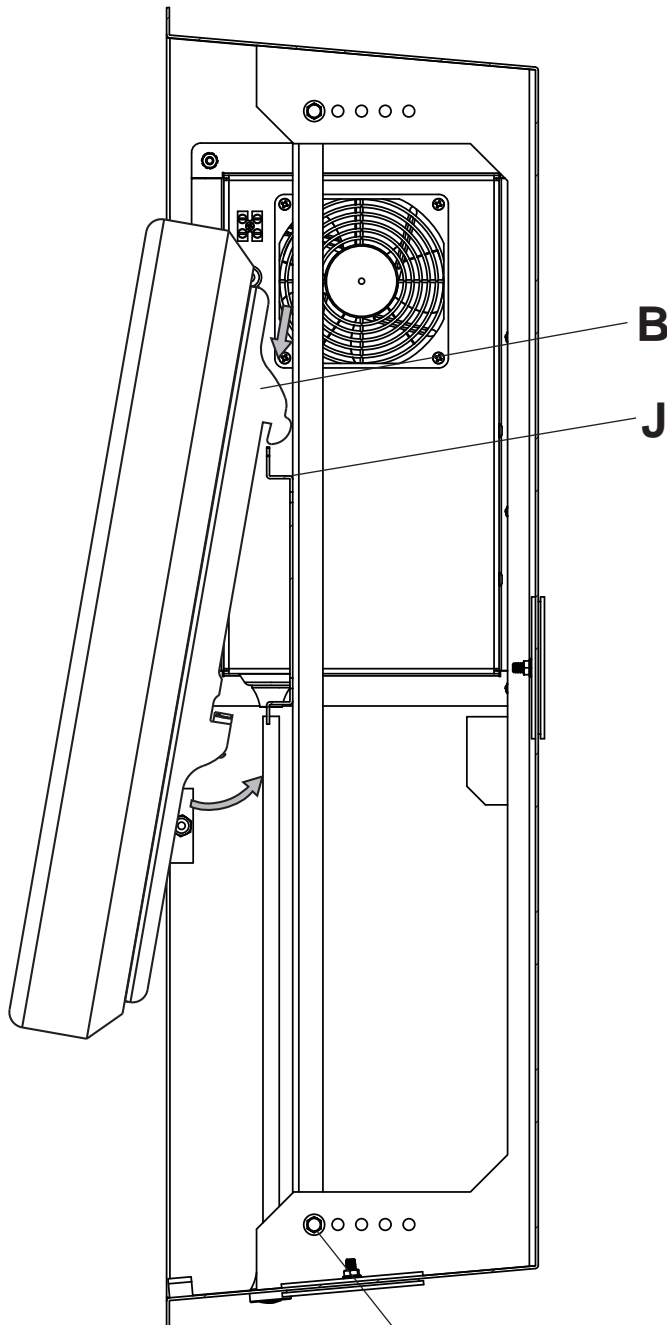

fig. 7.1
- 7 Hook adapter brackets (B) onto wall plate (J) then slowly swing display in as shown in figure 7.1. Remove 3" serrated washer head screws from bottom of rear supports. Swing rear supports up to access safety/security screws as shown in figure 7.2.